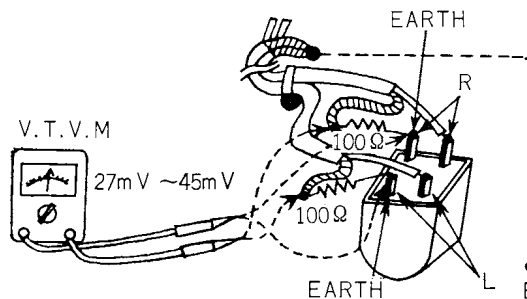

Fig. 13
- Measure the voltage after connecting V.T.V.M. (vacuum tube voltmeter) as shown in Fig. 13, and